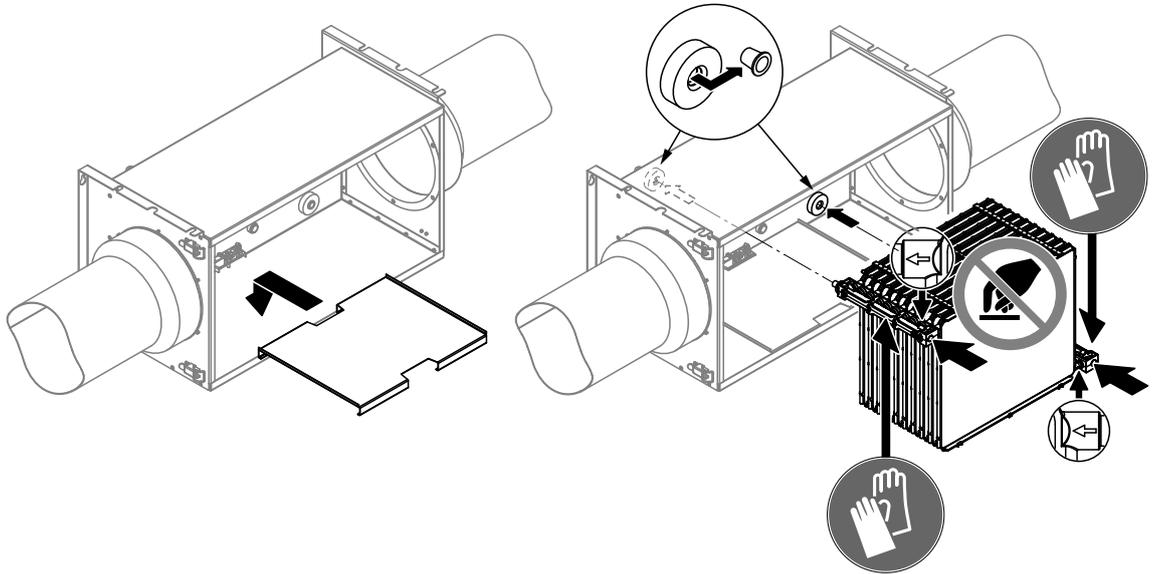

Fig. 18: Installing the base panel and humidifier insert
10. Insert the base panel into the humidifier housing (see *Fig. 18*).